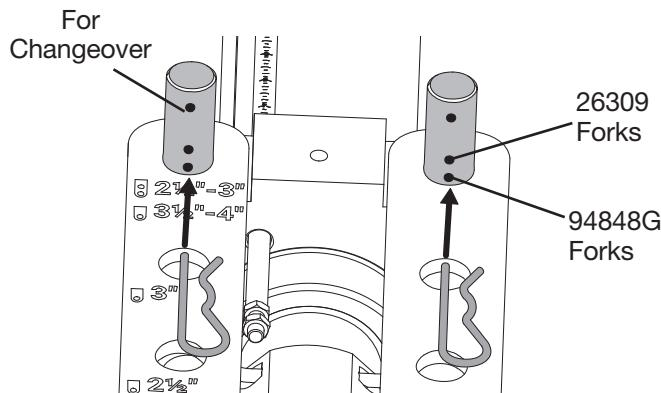

Figure 7
9. While keeping the hitch pin head tight against the connecting fork face, insert the clip in the hole closest to the opposite connecting fork face. Repeat for second pin. (Fig. 7)
For changeover to other shoe groups, remove cylinder block hitch pin clips, as necessary, and insert into outermost hole of hitch pin (Fig.7). Lift connecting fork enough to allow the follow bar through.